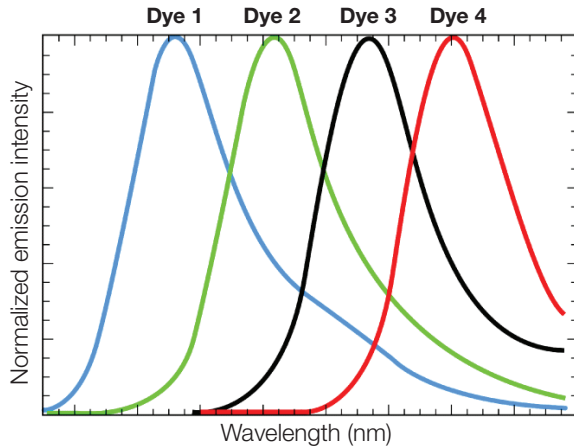

Figure 6. Emission spectra of the four BigDye dyes. Dye 1 = Big-d110, Dye 2 = R6G, Dye 3 = Big-dTAMRA, and Dye 4 = Big-dROX.
The fluorescent dyes used in BigDye terminators, BigDye primers, and BigDye Direct have narrower emission spectra and less spectral overlap than the rhodamine dyes used in previous sequencing kits. As a result, the dyes produce less noise. Figure 6 shows the normalized emission spectra and spectral overlap of the four dyes in the BigDye Terminator Cycle Sequencing Kit.
- **Multicomponent analysis**—Each fluorescent dye emits its maximum fluorescence at a different wavelength, but there is some overlap in the emission spectra (Figure 6 on page 8). Thus a signal generated primarily in one color channel may yield a lower signal in an adjacent color channel. Multicomponent analysis separates the four different fluorescent dye signals into distinct spectral components by mathematically filtering fluorescence signals from dyes with emission spectra overlap.
- **Quality value determination (QV)**—If the KB Basecaller is used for analysis, the software assigns a QV for each base. The QV predicts the probability of a basecall error. For example, a QV of 20 predicts an error rate of 1%. The quality prediction algorithm is calibrated to return QVs that conform to the industry-standard relationship established by the Phred software. If your pipeline involves analysis with Phred software to assign QVs after the data are basecalled, you can simplify your workflow and use the KB Basecaller instead. The KB Basecaller can perform base calling and assign QVs. Then, you can generate PHD (phd.1) or SCF (.scf) files using the KB Basecaller to integrate with your downstream pipeline.